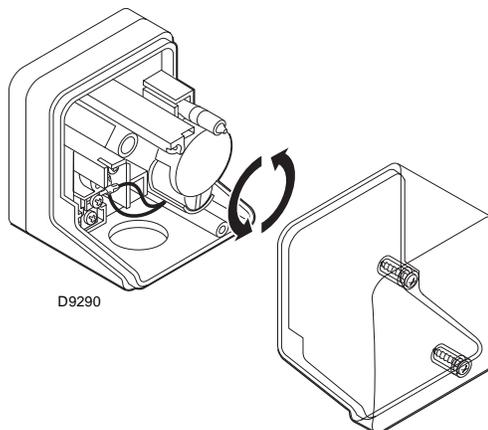

Fig. 47
- Adjust the low gas pressure switch to the start of the scale (Fig. 47).
Adjust the minimum gas pressure switch after having performed all the other burner adjustments with the pressure switch set at the start of the scale (Fig. 47).